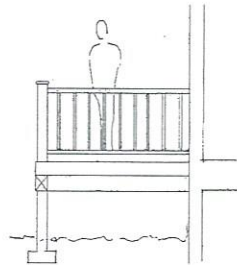

Figure 5c: Allowed
- The open underside of first floor porches and decks shall be screened with a material compatible with the building's walls. (Figure 5c).